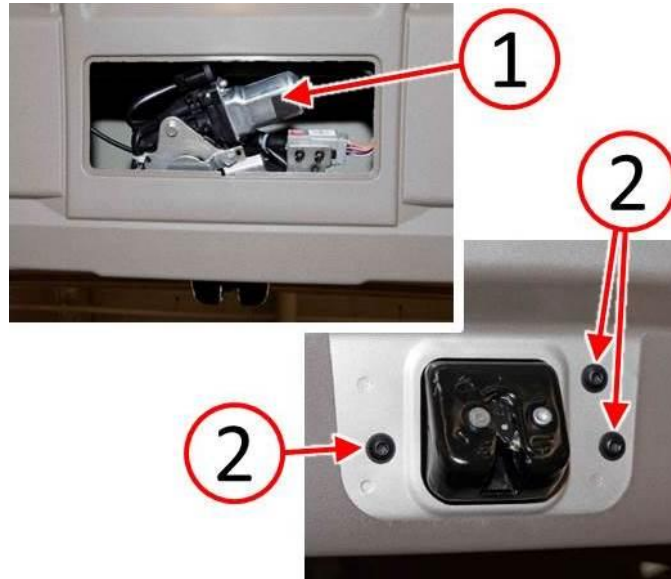

Fig. 8 Install Liftgate Latch
15. Position the liftgate latch (1) to the inside of the liftgate (Fig. 8).
16. Install the three screws (2) that secure the liftgate latch to the liftgate and tighten the screws to 11 Nm (95 in. lbs.) (Fig. 8).